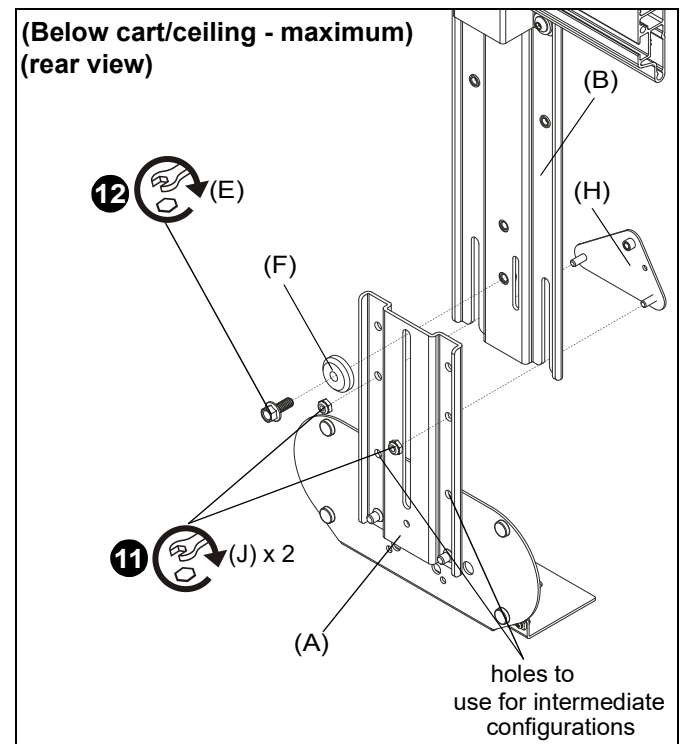

Figure 11
- (For maximum/intermediate extension) Use two #10-24 lock nuts (J) to secure upright bracket (A) to main bracket (B) and adapter plate (H). (See Figure 11)
- (For maximum/intermediate extension) Use 1/4-20 x 5/8" hex head flange bolt (E) and center washer (F) to secure upright bracket (A) to main bracket (B). (See Figure 11)